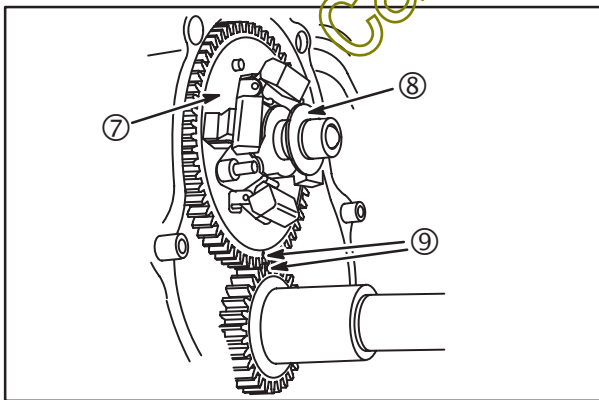

Fig. 26
1. Remove governor spool (8) from camshaft (7). **Fig. 26.** Discard gasket and O-ring.
2. Rotate crankshaft and camshaft until timing marks (9) align. Remove camshaft.